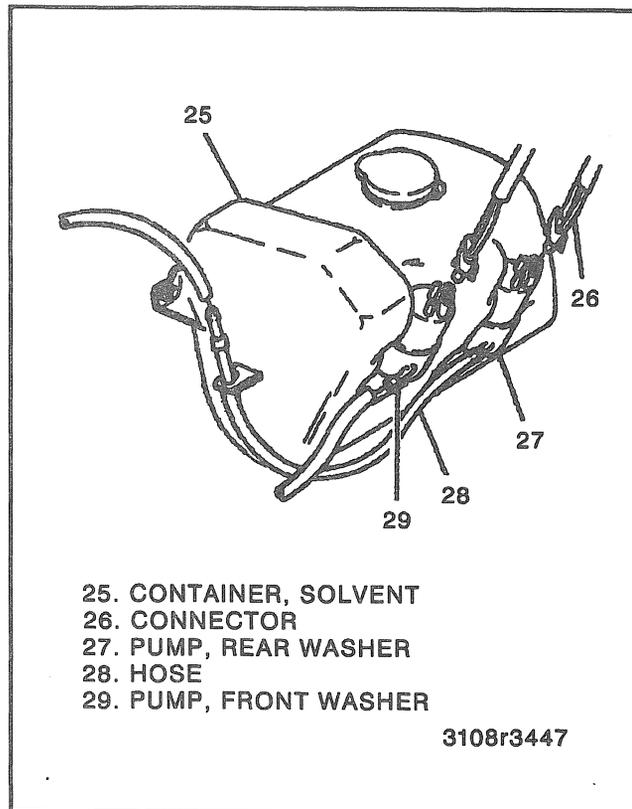

Figure 21—Washer System Components
**Remove or Disconnect (Figure 21)**
**Install or Connect (Figure 21)**